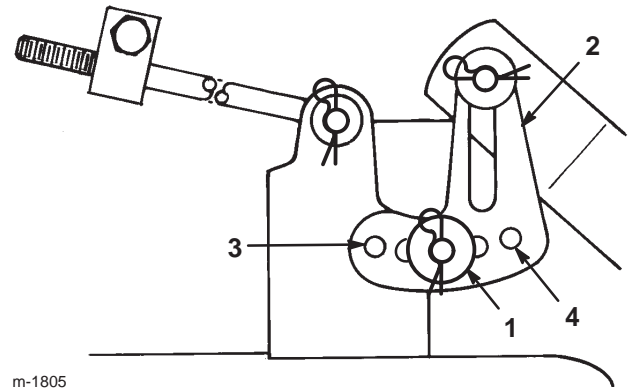

Figure 43
11. Remove the hairpin cotter and washer from the leveling bracket (Fig. 43).
12. Position the leveling bracket in a different hole and install the washer and hairpin cotter (Fig. 43).